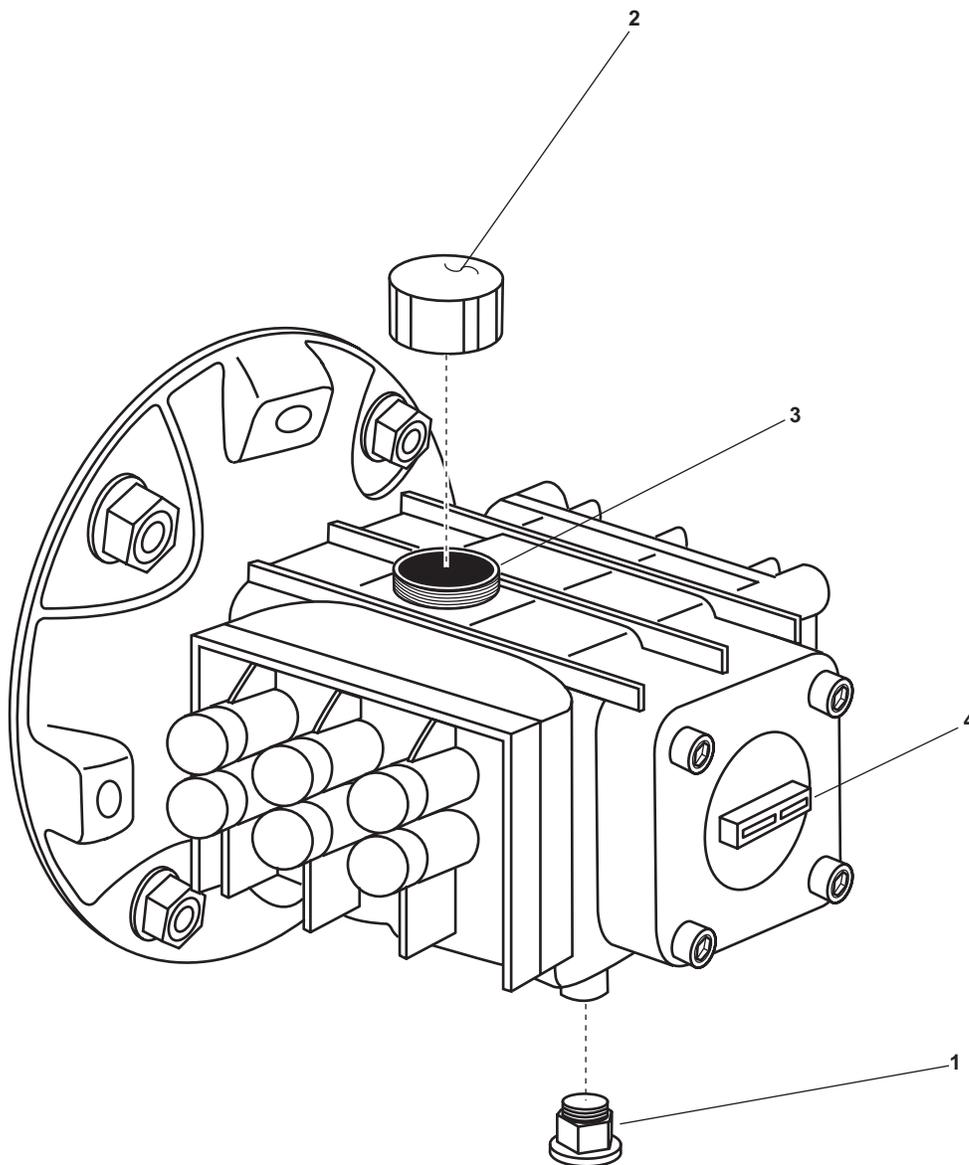

Figure 1. High Pressure Pump
4. Place a suitable drain pan under the applicable high pressure pump oil drain plug (figure 1, item 1).
5. Unscrew the high pressure pump oil cap (figure 1, item 2), from the oil fill port (figure 1, item 3).
6. Remove the high pressure pump oil drain plug (figure 1, item 1).
8. Install the high pressure pump oil drain plug (figure 1, item 1).
9. Pour high pressure oil through the oil fill port (figure 1, item 3) until it just covers the sight glass (figure 1, item 4). Do not overfill.
10. Install the high pressure pump oil cap (figure 1, item 2).